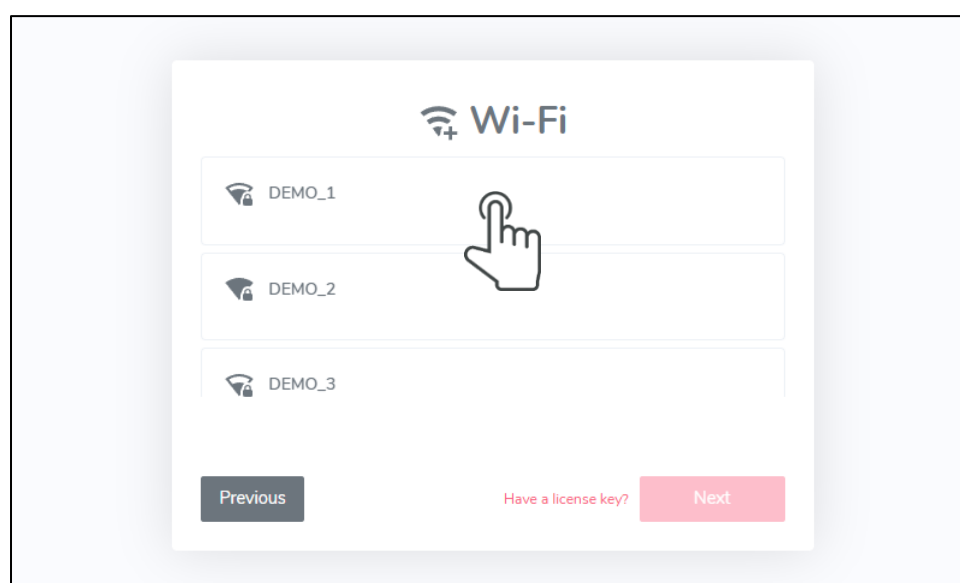

Figure 4
4. On the next step (Figure 4), set up Wi-Fi connectivity. If Wi-Fi connectivity is not desired, contact support. With internet access, the following features are enabled:
1. Select a Wi-Fi network from the list (Figure 4).